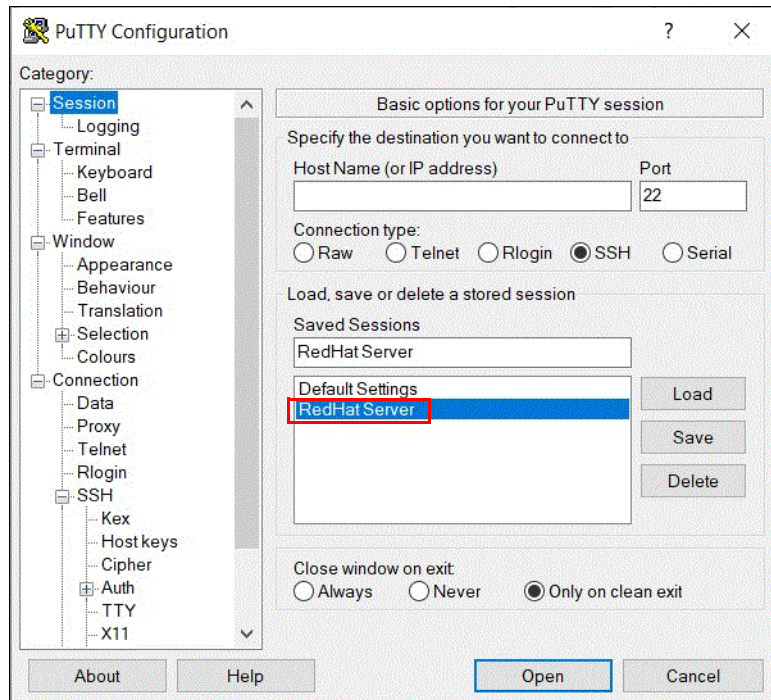

Figure C-13 Connecting to a system
10. Select the new session and click **Open** to connect to the IBM Spectrum Virtualize system, as shown in Figure C-13.